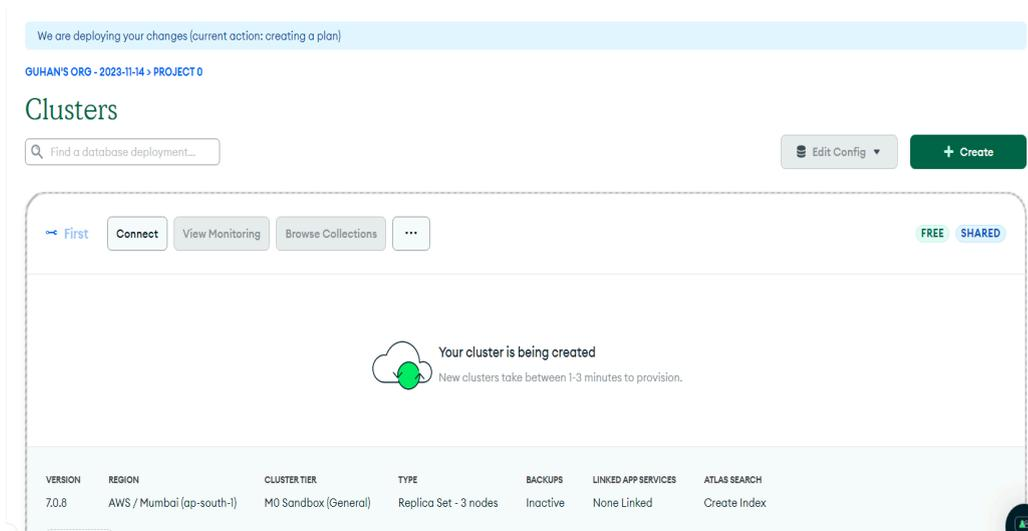

Fig : 4.3.1 - Cluster tab to get the connection string
- Go to the "Clusters" tab shown in Fig 4.3.1